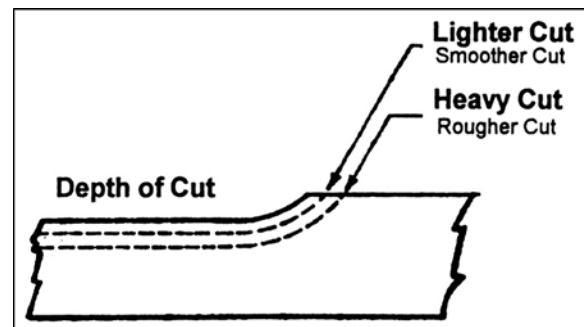

Figure 6
- **Depth of Cut** – depth of cut from workpiece on a single pass through the machine. (Figure 6)